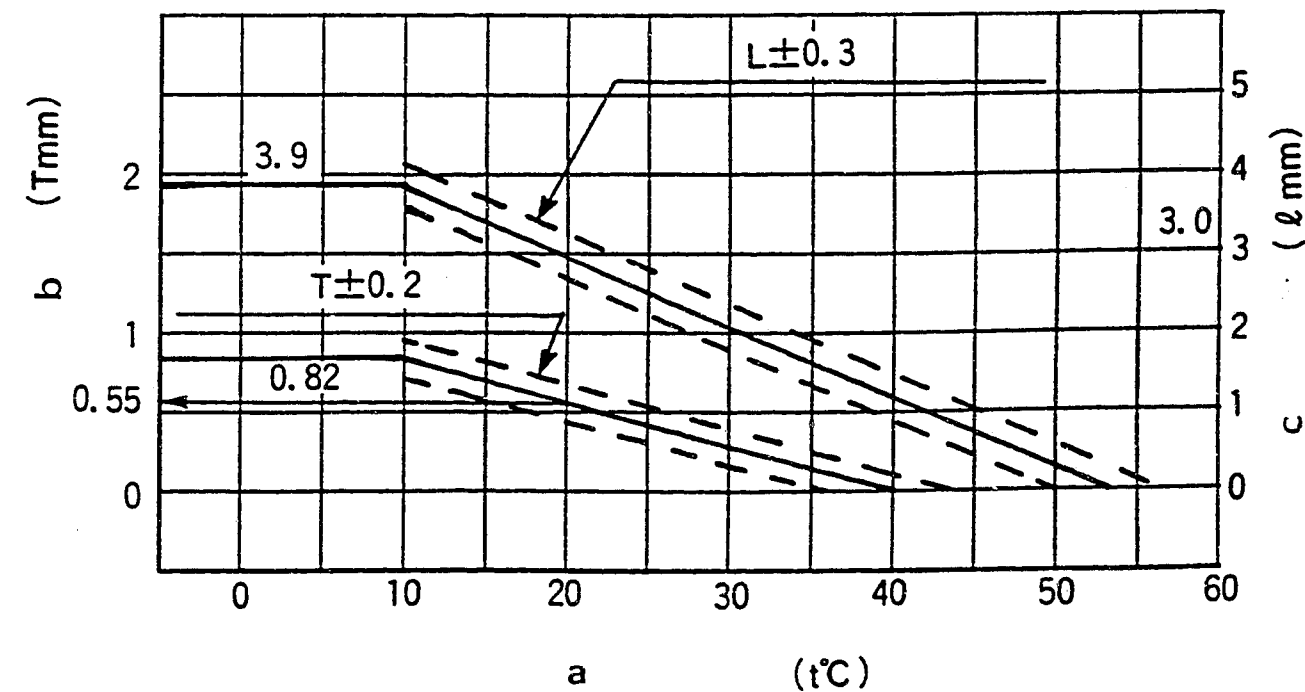

Figure 9
- 1) Calculate the timer stroke from Fig. 9 according to the atmospheric temperature at the time of adjustment.
- 2) Adjust using the timer stroke adjusting screw so that the timer stroke is as calculated in Fig. 9 (diagram).
- 1) Calculate the block gauge dimension $l \pm 0.05$ mm from (Fig. 9) according to the atmospheric temperature at the time of adjustment.